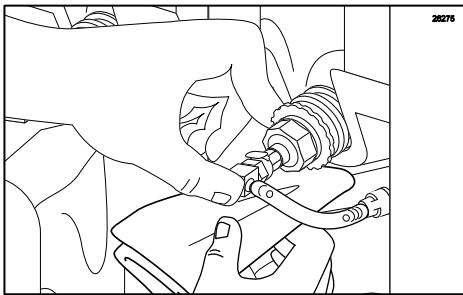

Figure 71
24. Reconnect each syrup line and bag of syrup by pressing the Syrup Bag Connector onto the Syrup Bag Adapter valve. (See Figure 71.)